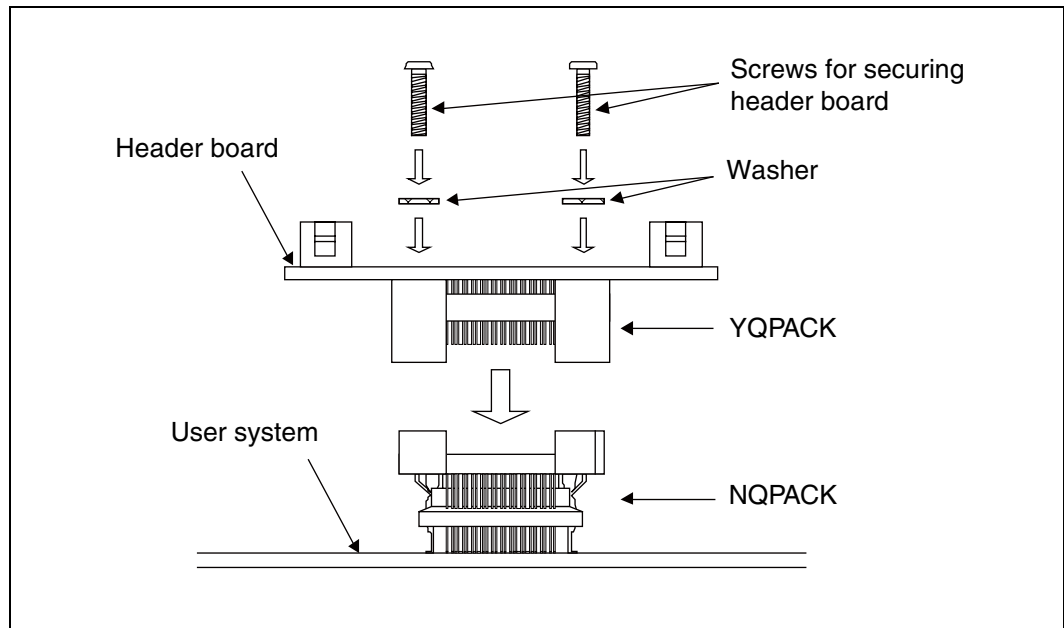

Figure 4 Header board connection
2. Insert the screws for securing the header board through the washers into the four holes on the header board, and then tighten the screws in the opposite corners evenly using the special screw driver that was included with the NQPACK (see “Figure 4”).